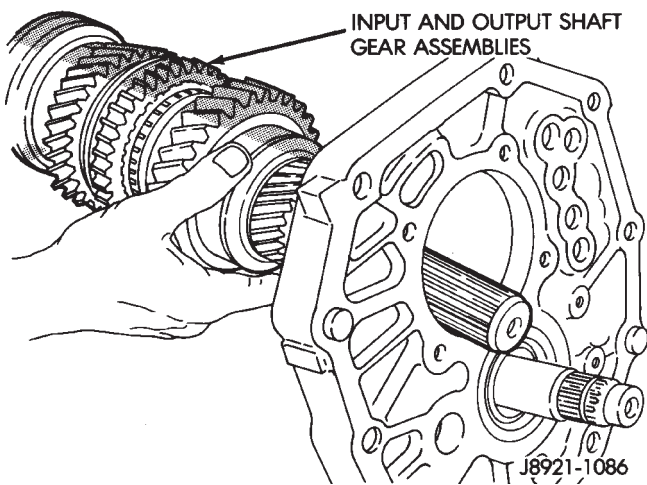

Fig. 56 Input/Output Shaft Assembly Removal
- (4) Remove output shaft by rocking it lightly until rear bearing comes out of intermediate plate (Fig. 56).